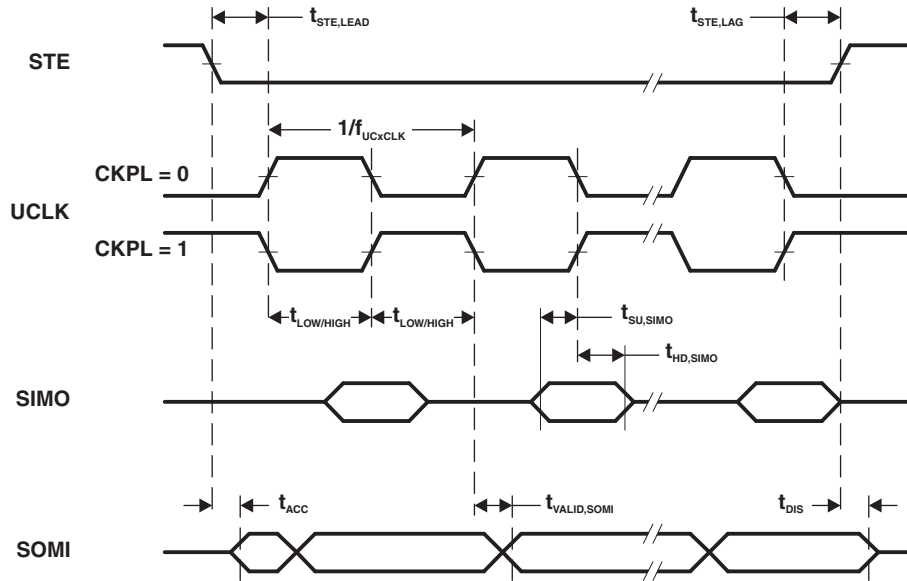
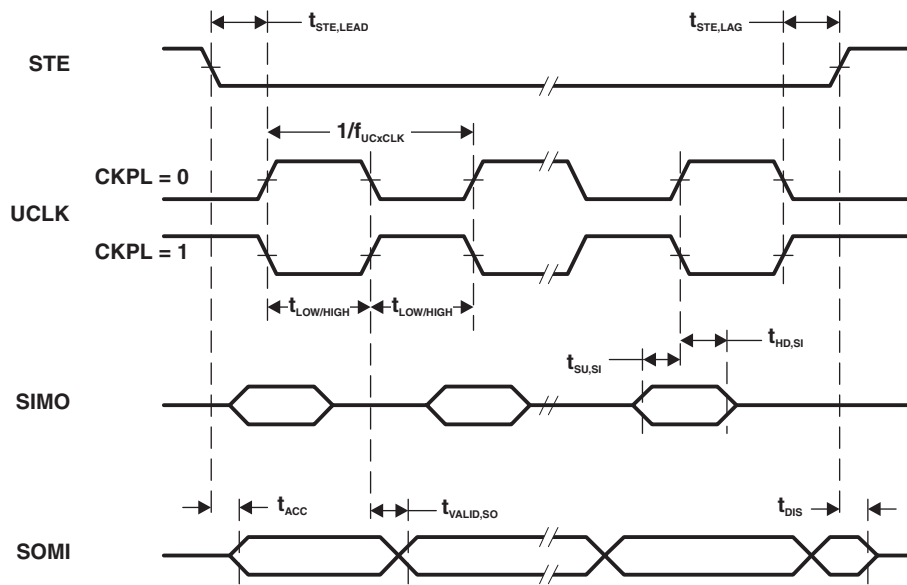

Figure 5-12. SPI Slave Mode, CKPH = 0
Figure 5-13. SPI Slave Mode, CKPH = 1
(1) $f_{UCxCLK} = 1/2t_{LO/HI}$ with $t_{LO/HI} \geq \max(t_{VALID,MO(Master)} + t_{SU,SI(eUSCI)}, t_{SU,MI(Master)} + t_{VALID,SO(eUSCI)})$.For the master's parameters $t_{SU,MI(Master)}$ and $t_{VALID,MO(Master)}$ refer to the SPI parameters of the attached slave.(2) Specifies the time to drive the next valid data to the SOMI output after the output changing UCLK clock edge. Refer to the timing diagrams in Figure 5-12 and Figure 5-13.(3) Specifies how long data on the SOMI output is valid after the output changing UCLK clock edge. Refer to the timing diagrams in Figure 5-12 and Figure 5-13.